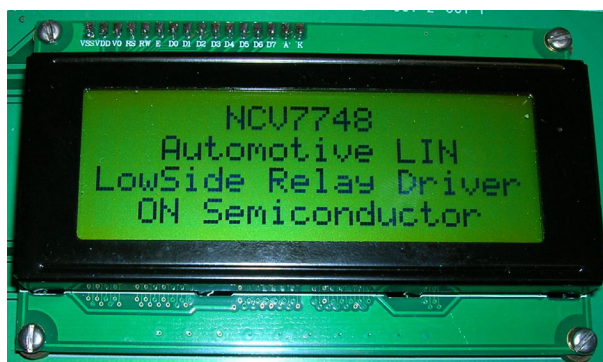

Figure 6. Splash Screen
4. The splash screen will be shown (see Figure 6).